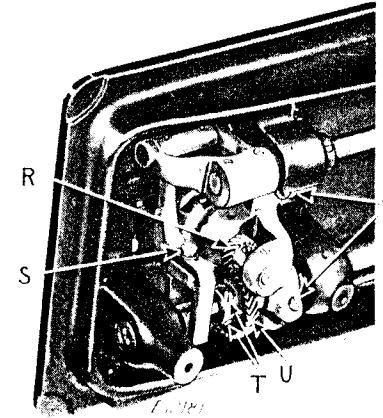

Fig. 19. Adjustment of Hook Saddle
Loosen the two screws (T, Fig. 19) in the hub of the hook driving gear (U, Fig. 19) and tap this gear to the right or left on the hook driving shaft until the point of the hook is at the center of the needle. Tapping to the right gives an earlier hook timing, and to the left a later hook timing. Securely tighten the two set screws (T) in the gear.
Turn the balance wheel over toward you until the point of the sewing hook is at the center of the needle. Loosen the two screws (V, Fig. 19) underneath the bed of the machine and move the hook saddle to the right or left, as may be required, until the point of the hook is as close to the needle as possible without striking it, then securely tighten the two screws (V).
Remove the throat plate, feed dog and the bobbin case opener. Loosen the two screws in the hook shaft gear (R, Fig. 19) and lift out the sewing hook.
Remove the throat plate; clean the lint and dust from between the feed points and replace the throat plate; tip the machine back and turn the balance wheel towards you until the feed dog is at its highest position; loosen screw (S, Fig. 19) in the feed lifting cam fork on the feed bar and raise or lower the feed dog, as may be required, and retighten the screw (S).